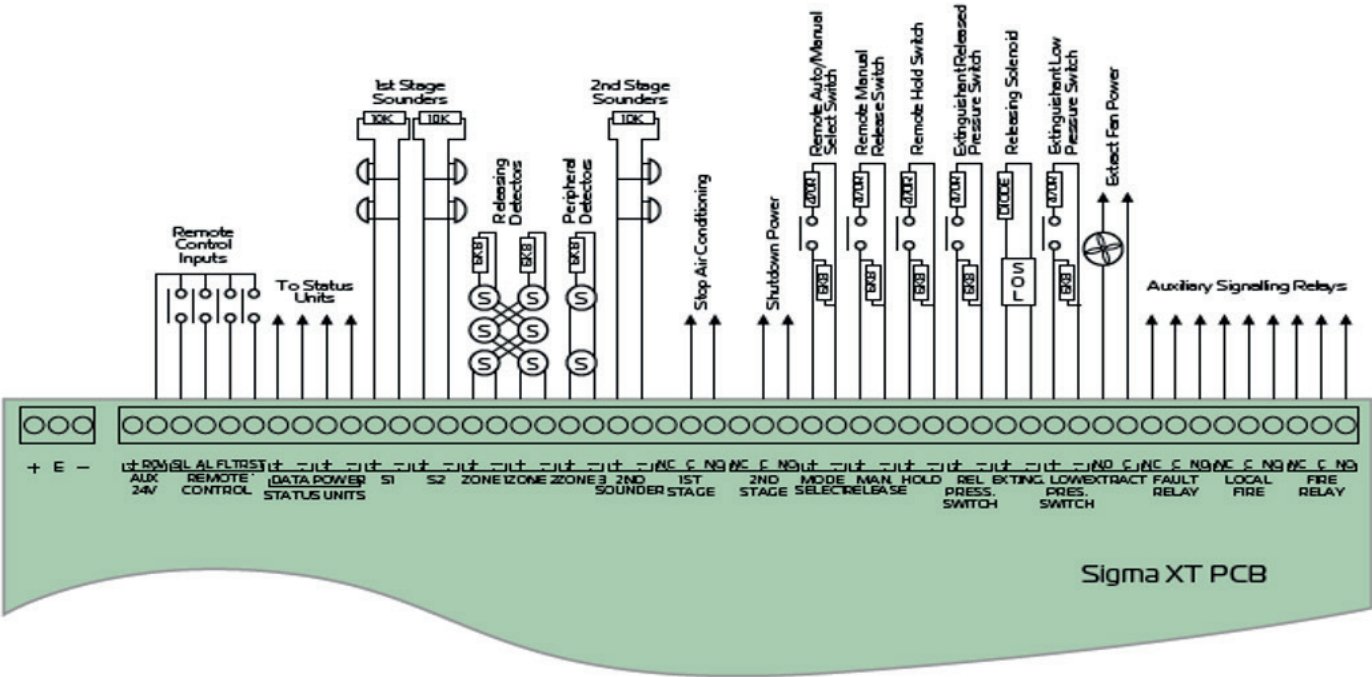

Figure 149. Fire Control Box Connection Reference
2. Install the cable as indicated in Figure 149 terminating the wires on terminal block XRS-1 and XRS-2.